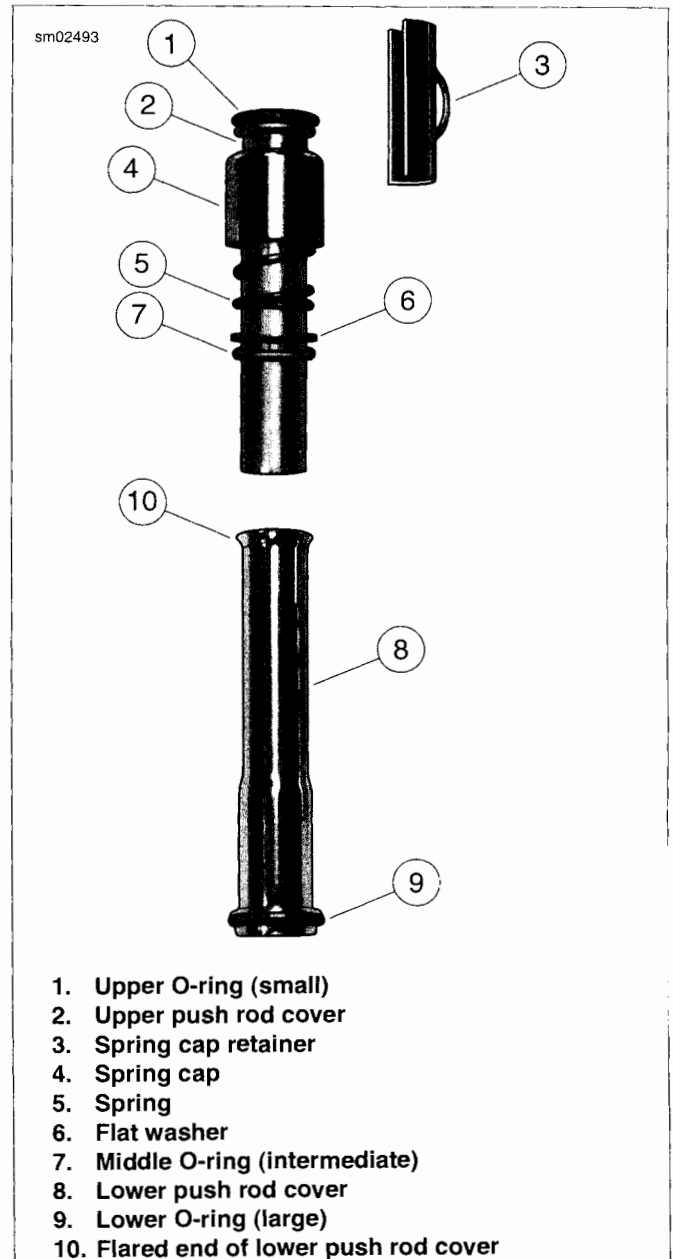

Figure 3-96. Assembled Push Rod Cover
1. See Figure 3-96. Obtain three **new** O-rings (1, 7 and 9). Apply a very thin film of clean H-D 20W50 engine oil to O-rings before installation.
2. Install **new** small O-ring (1) on seat at the top of the upper push rod cover (2).
3. Slide the spring cap (4), spring (5), flat washer (6) and **new** intermediate size O-ring (7) onto the body of the upper push rod cover. Move parts up body until spring cap (4) contacts upper O-ring seat.
4. Fit the straight end of the upper push rod cover into the flared end of the lower push rod cover (8).
5. Install **new** large O-ring (9) on seat at bottom of lower push rod cover.